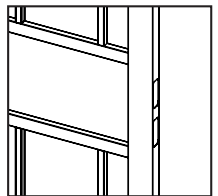

FIGURE 5
5. With the stationary door in the closed position, position the operating door (the one with the locksets installed) over the remaining opening with the lock bolt extending and protruding into the respective holes in the stationary door (Fig. 5).